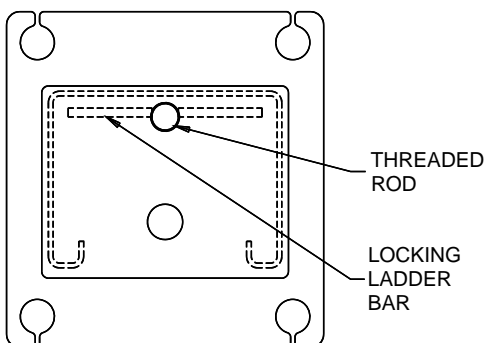

Fig 8 – Locking Ladder Orientation
- 14) Stand up a column assembly near each corner of the lift (column with power unit bracket goes at the 4-sheave-stack corner, power rear) and check the locking ladder bar orientation per **Fig 8**. Note that the center of the threaded rod is offset (away from the back of the column) from the center of the ladder. Thread the locking ladder jam nut (located under the column top plate) down approximately 6" to allow the ladder to be lifted freely.